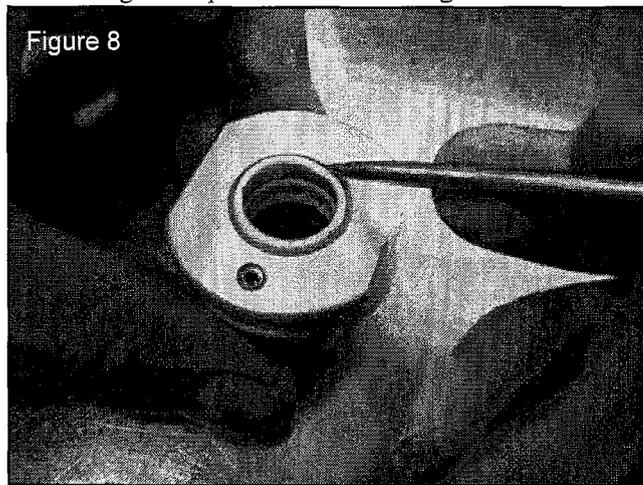
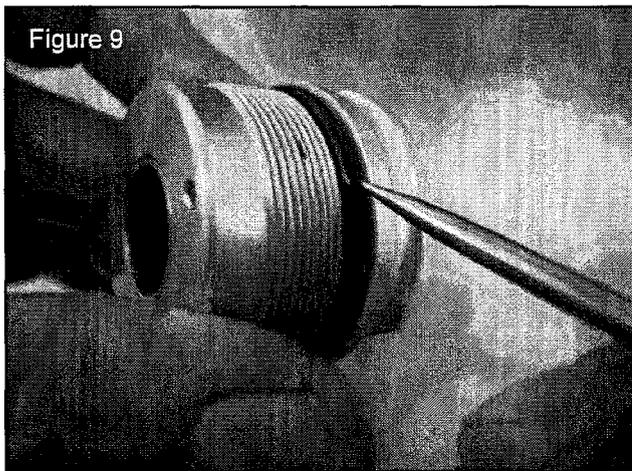

Figure 8
Figure 9
1. Use a scribe or dental pick to remove the U-cup wiper (Fig. 8) and O-ring seals (Fig. 9) from the bearing housing. Be careful not to scratch the seal grooves or the DU bushing that is pressed into the bearing.